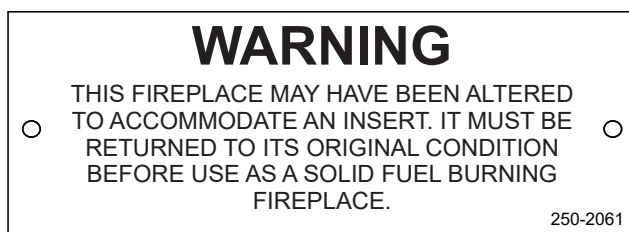

Figure 16.1
- The permanent metal warning label provided in the component pack must be attached to the back of the fireplace, with screws or nails, stating that the fireplace may have been altered to accommodate the insert, and must be returned to original condition for use as a conventional fireplace (**Figure 16.1**).